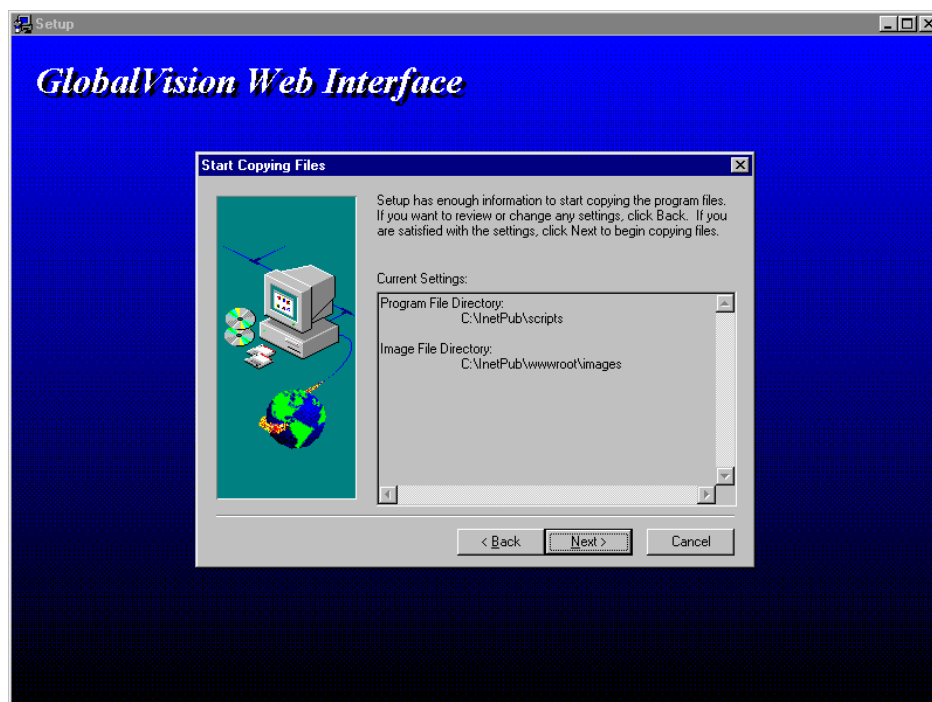

Figure 28 – Start Copying Files dialog box
6. The START COPYING FILES dialog box is displayed. The options that have already been selected are listed. If you wish to change them, select the **<Back** option which takes you back to the previous screens where changes can be made. If you are ready to continue, select **Next>**. See Figure 28.